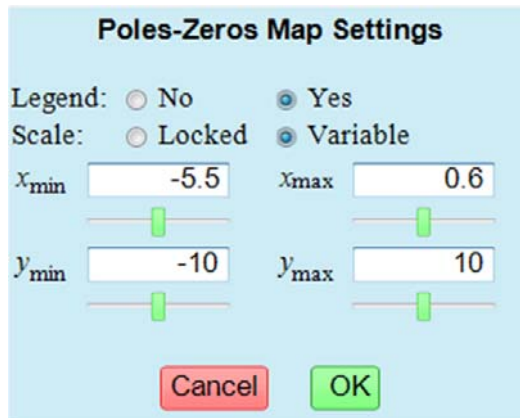

Figure 13. Auxiliary window to configure the scale of the poles-zeros map
- Settings. It is located in the upper right corner of the zone, and is represented by a gearwheel icon. When the user clicks on this icon, an auxiliary window is shown (see Figure 13). It allows hiding the legend and configuring the scale of the poles-zeros map. The user can select the type of scale by clicking on the corresponding radio button: